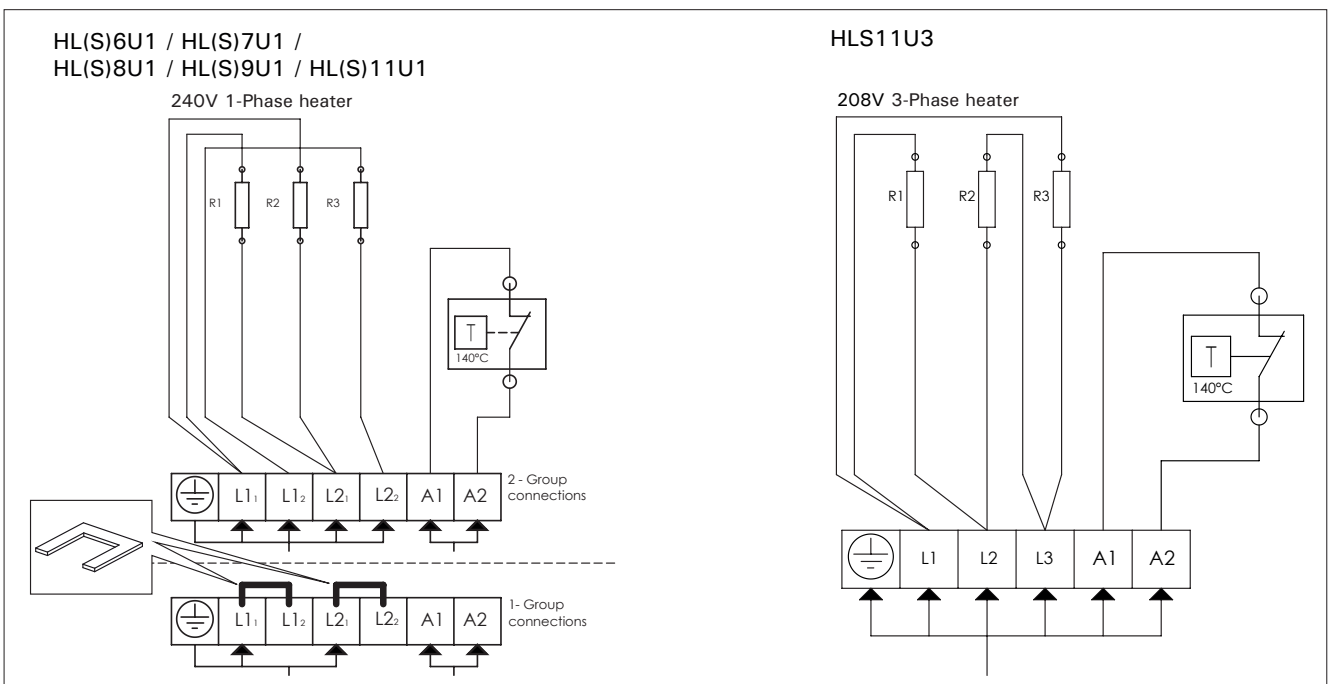

Figure 6. Electrical connections of heater
2. See applicable wiring diagram for heater model (figure 6, see control unit manual for detailed instructions how to connect the heater and the control unit). Heater must be permanently installed by using seal tight conduit between the heater and the wall of the sauna room (pigtails or plugs are not allowed in the sauna room). Wiring must be done by a licensed electrician, who must follow wiring diagram provided and adhere to local codes. Use proper AWG rated wire size and use copper wire suitable for 194 °F (90 °C) within sauna walls. Use grounding terminals provided in sauna heater and control unit to properly ground the equipment as per NEC and local codes.